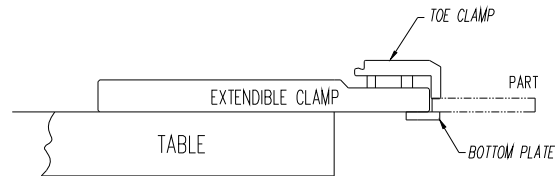

Figure 2
STEP 1. For work pieces from 0.0 inches to .625 inches thick, the brass, threaded rod is attached with the extended end of the clamp holding the work piece as shown in Fig. 2.